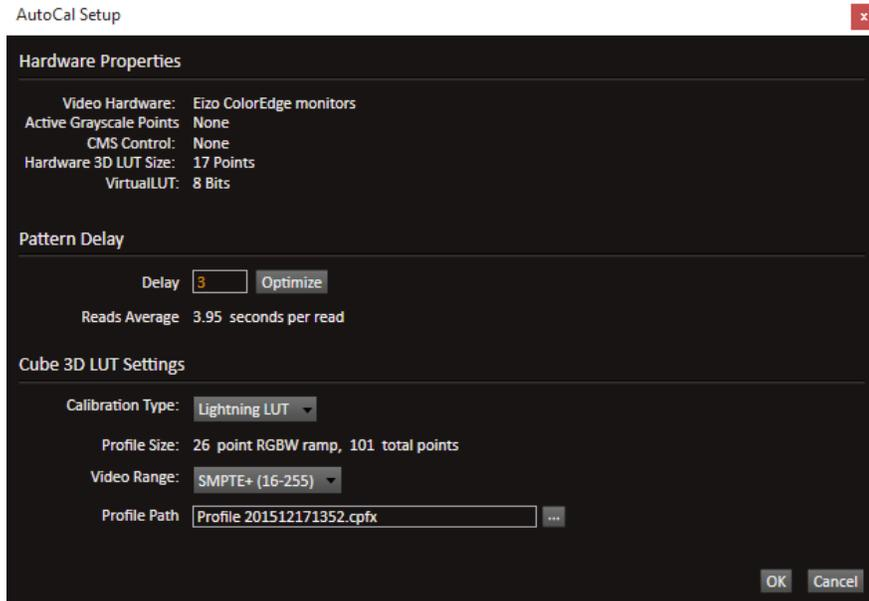

Figure 7. CalMAN 3D LUT AutoCal Setup dialog.
1. On the *3D Cube LUT* page, click the AutoCal (rotating arrows) button at the right end of the meter action buttons. The following *AutoCal Setup* dialog then appears (Figure 7):